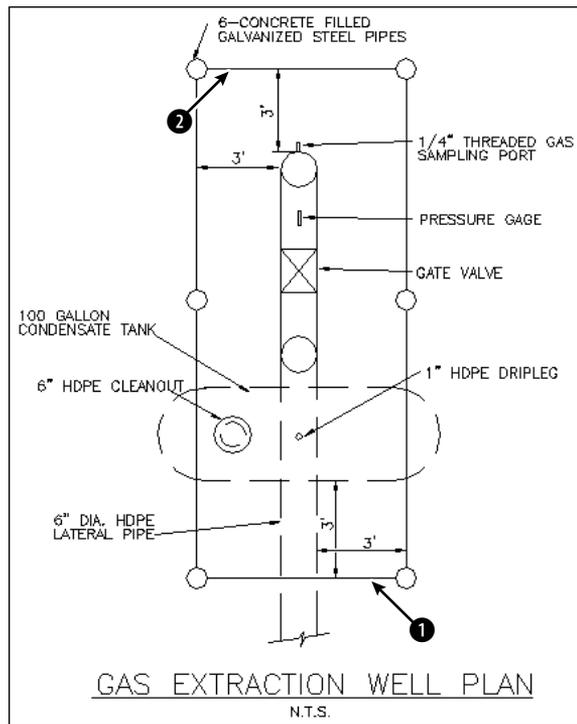

Figure 9-3: The gas extraction well schematic.
2. Save the file as `ab09-01.dwg` in your AutoCAD Bible folder. This drawing is a schematic of a gas extraction well, shown in Figure 9-3.
3. To erase the line at point ❶ of Figure 9-3, move the mouse until the pickbox at the intersection of the crosshairs is anywhere over the line and click. Notice that the line is dashed and displays grips.
6. At the `Select objects:` prompt, pick the line at point ❷ in Figure 9-3.